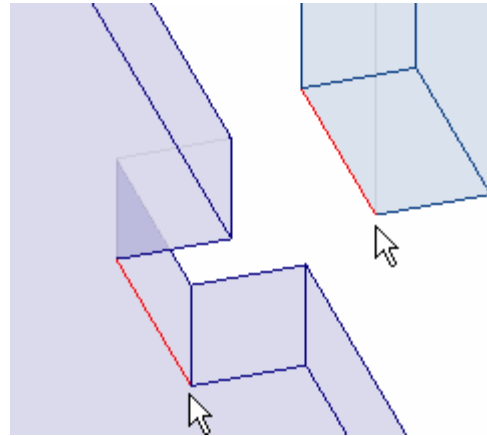

Figure 20. Edges Selected for Centering Axis.
40. Select the edges shown by the arrows in figure 20.